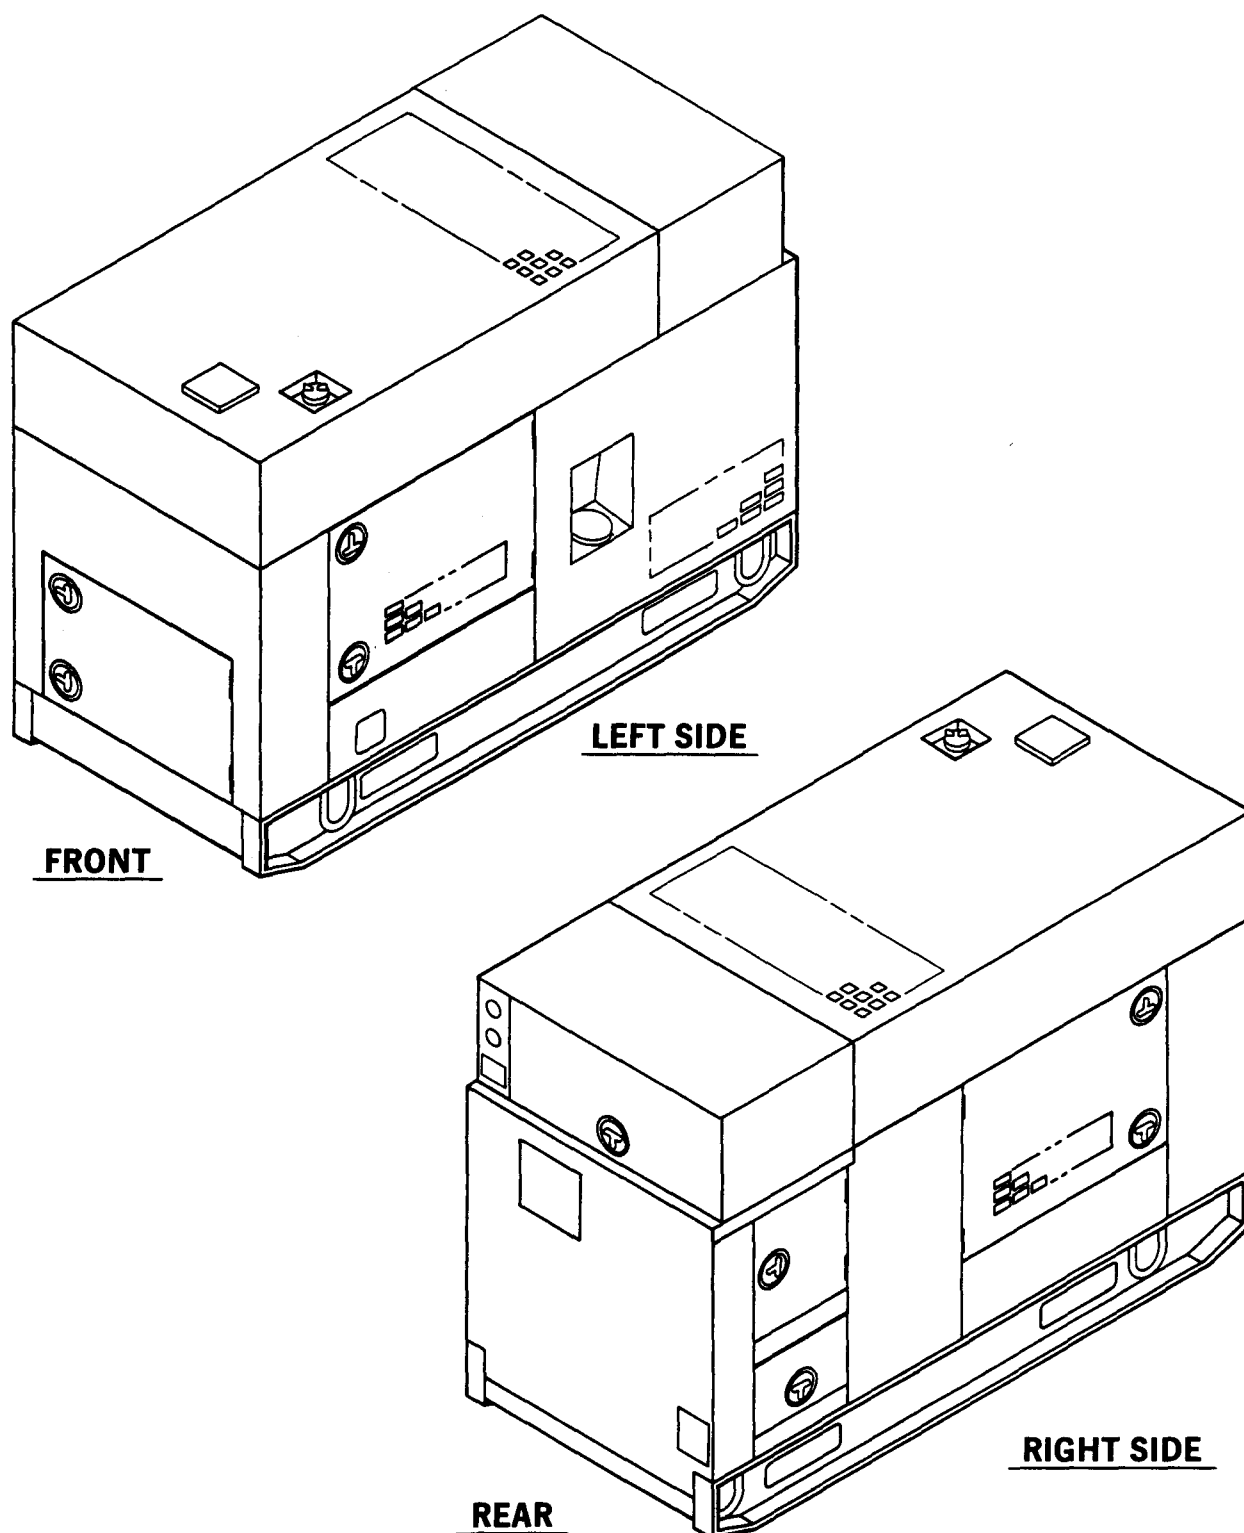

FIGURE 1-1. Generator Set, 15 kW, Tactical Quiet
1-1.1 Type of Manual. This manual contains operation and operator maintenance instructions for the Tactical Quiet (TQ), 15 kW 50/60 and 400 Hz Generator Sets (FIGURE 1-1), herein referred to as generator set. Included are descriptions of major components and their functions in relation to other components.